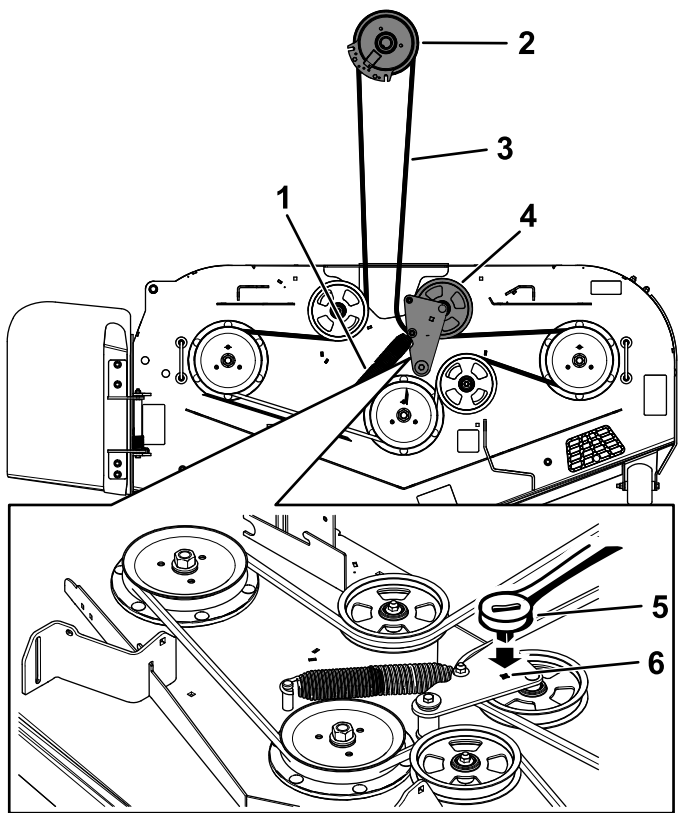

Figure 84
5. Use a 3/8-inch ratchet in the square hole in the idler arm to remove tension on the idler spring (Figure 84).
7. Remove the belt guide on the spring-loaded idler arm (Figure 84).
9. Install the new belt around the mower pulleys and the clutch pulley under the engine (Figure 84).
10. Install the belt guide on the idler arm (Figure 84).
11. Using the 3/8-inch ratchet in the square hole, install the idler spring (Figure 84).